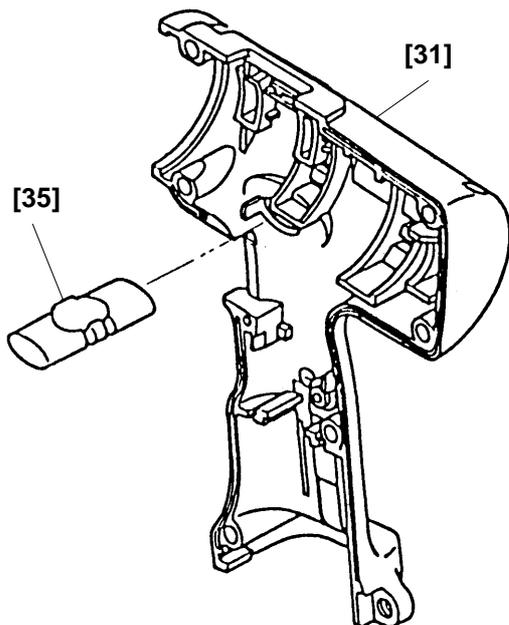

Fig. 17
(f) Install the Pushing Button [35] into Housing (B) [31]. (See Fig. 17)